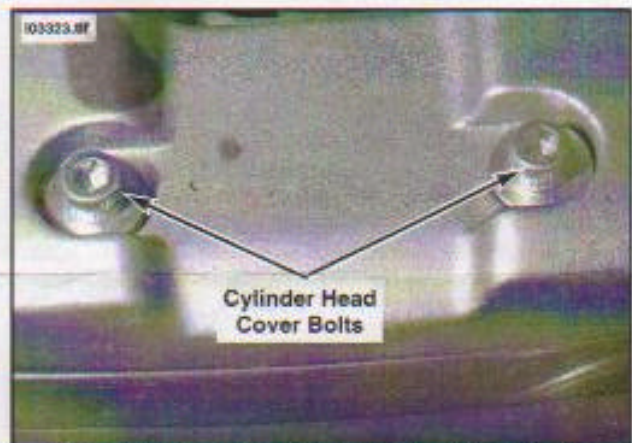

Figure 7. Remove Front Cylinder Head Cover bolts
- See Figure 7. Remove front cylinder head cover bolts and discard.